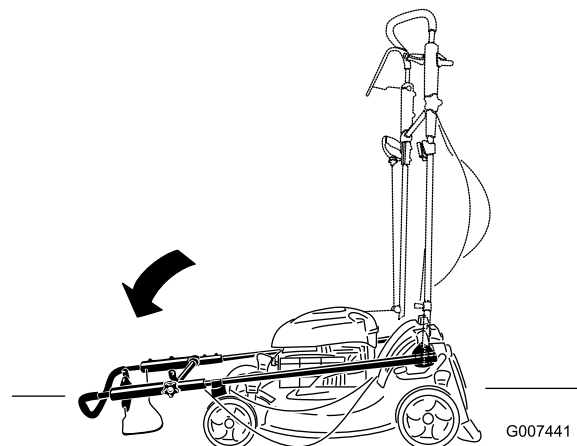

Figure 59
2. Move the handle all the way forward and loosen the upper handle knob (Figure 59).